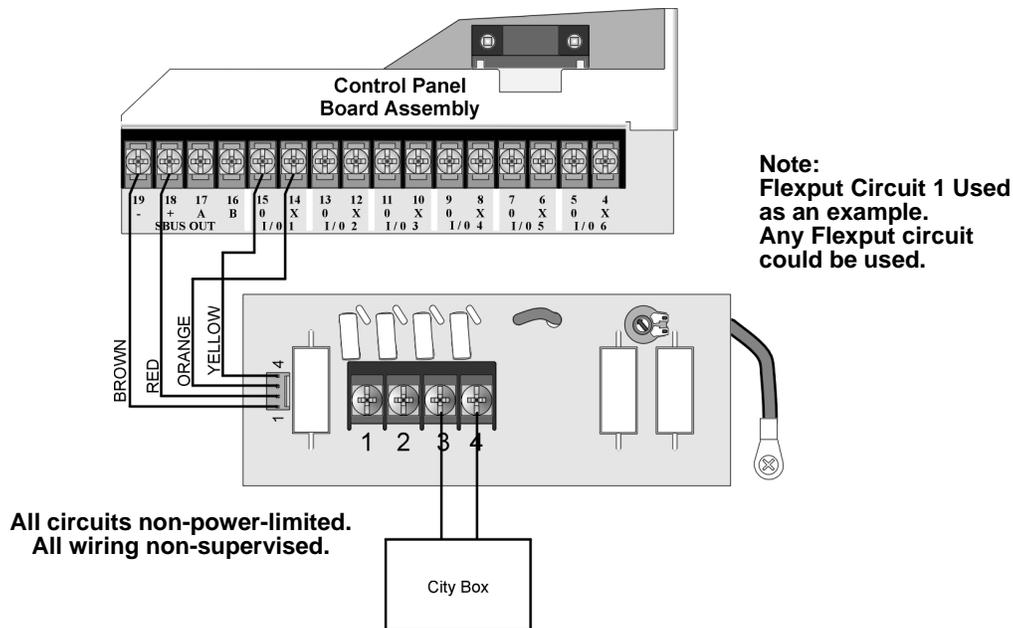

Figure 4-48 City Box Connection
2. Wire the 5220 to the control panel as shown in Figure 4-48. This drawing also shows how to connect the city box coil to terminals 3 and 4 on the 5220. Do not install an EOL resistor in the terminals of the Flexput circuit used for this application.